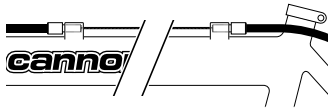

Fig. 2
2. Cable actuated brake systems should use the included pair of black housing stop inserts (#A463/) in the front and rear top tube cable guides, with bare brake cable running between these two cable stops along the length of the top tube (See Fig. 2.) Do not run brake cable housing this entire distance as the increased friction and compression of the housing will decrease braking efficiency.